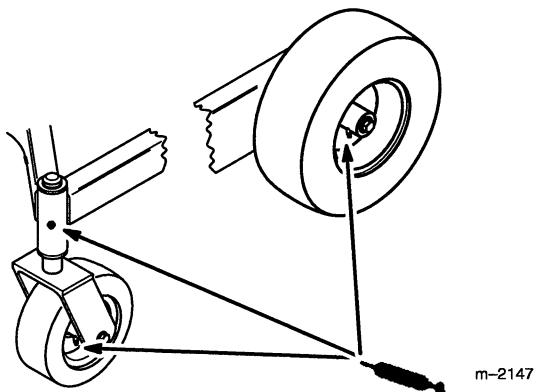

Figure 23
1. Lubricate the wheel bearings and front spindles until grease begins to ooze out of the bearings (Fig. 23).